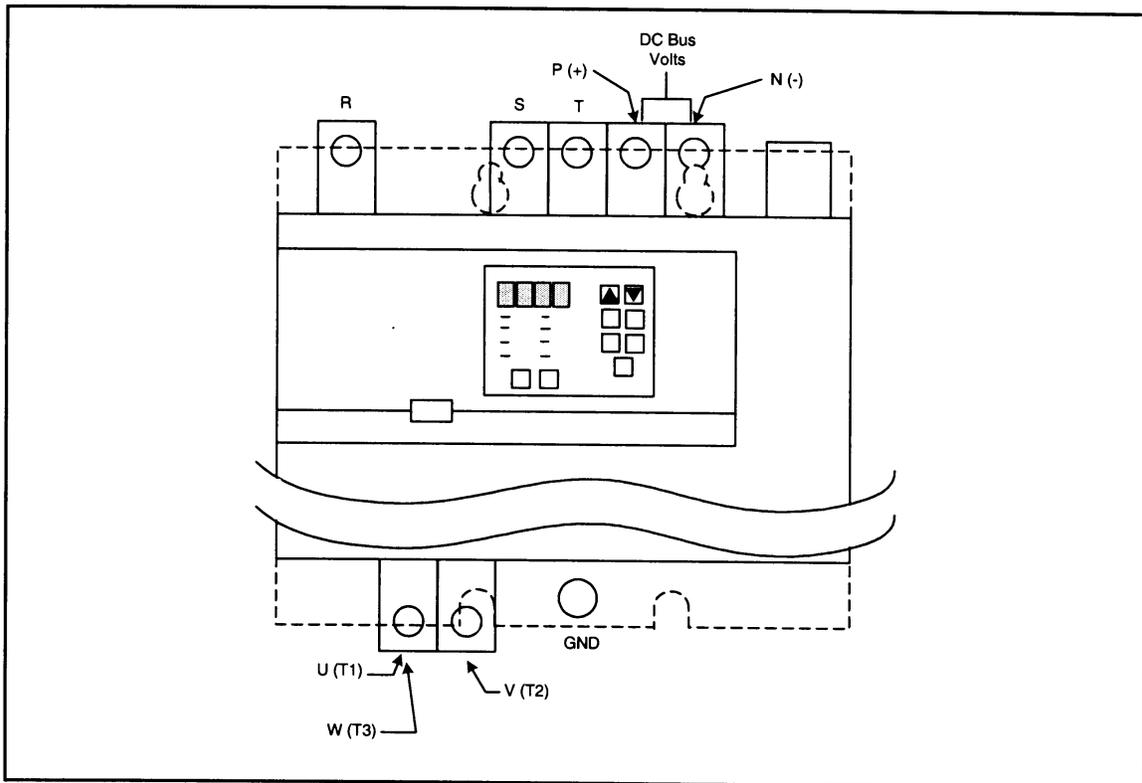

Figure 2.8 – DC Bus Voltage Terminals (30 to 100 HP @ 230VAC and 75 to 200 HP @ 460VAC)
- ii. Use a voltmeter to measure the DC bus potential at the DC bus power terminals shown in figure 2.8.